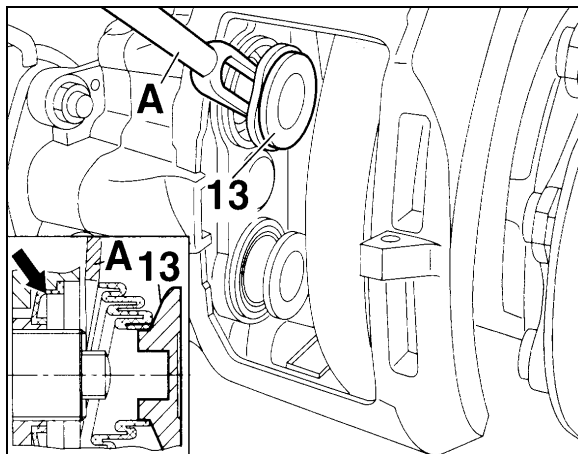

FIGURE 36: RUBBER BOOTS 12115
- a) The rubber boots (13, Fig. 36) should show no damage, check the attachment.